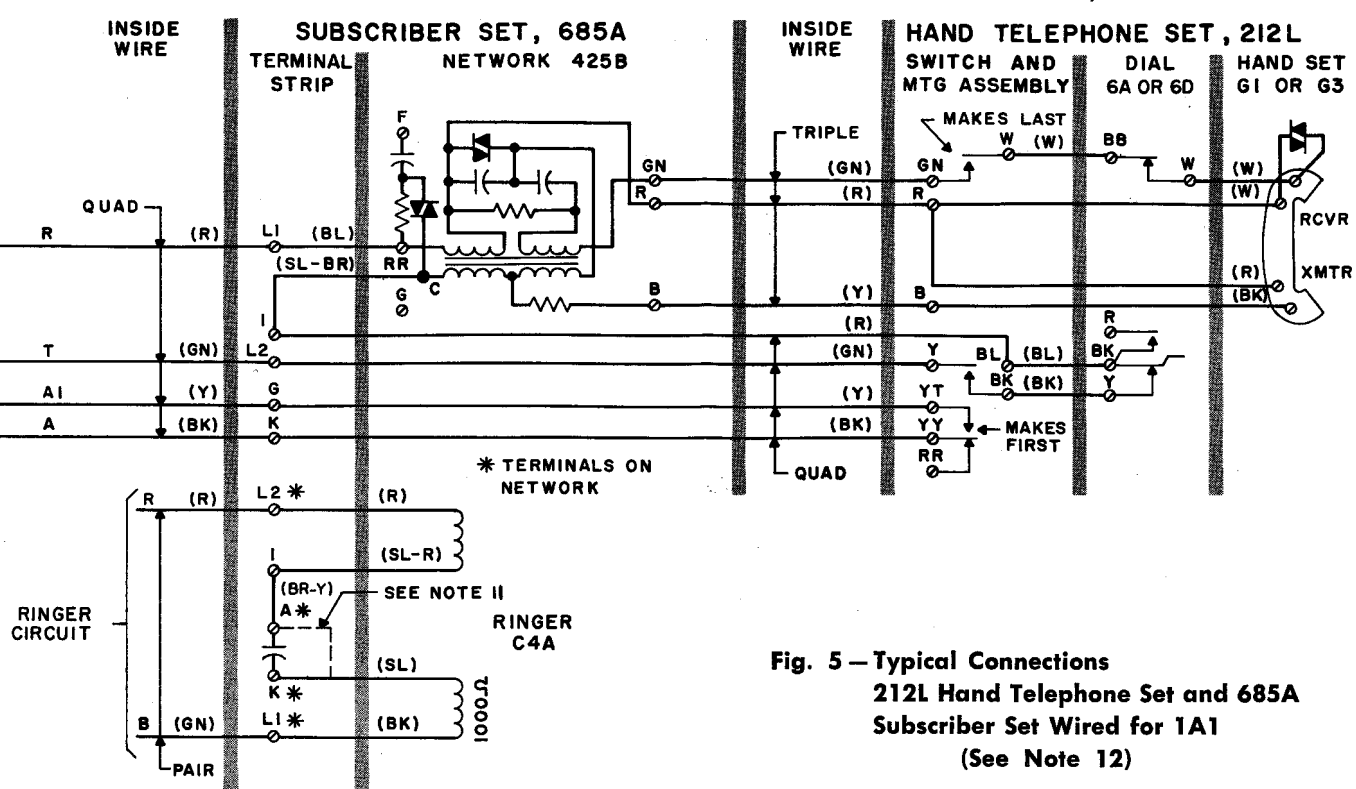

Fig. 5 - Typical Connections
- Note 12:** The 211L hand telephone set may be used with 1A installations. Make connections as shown in Fig. 5, omitting only the A and AI leads.